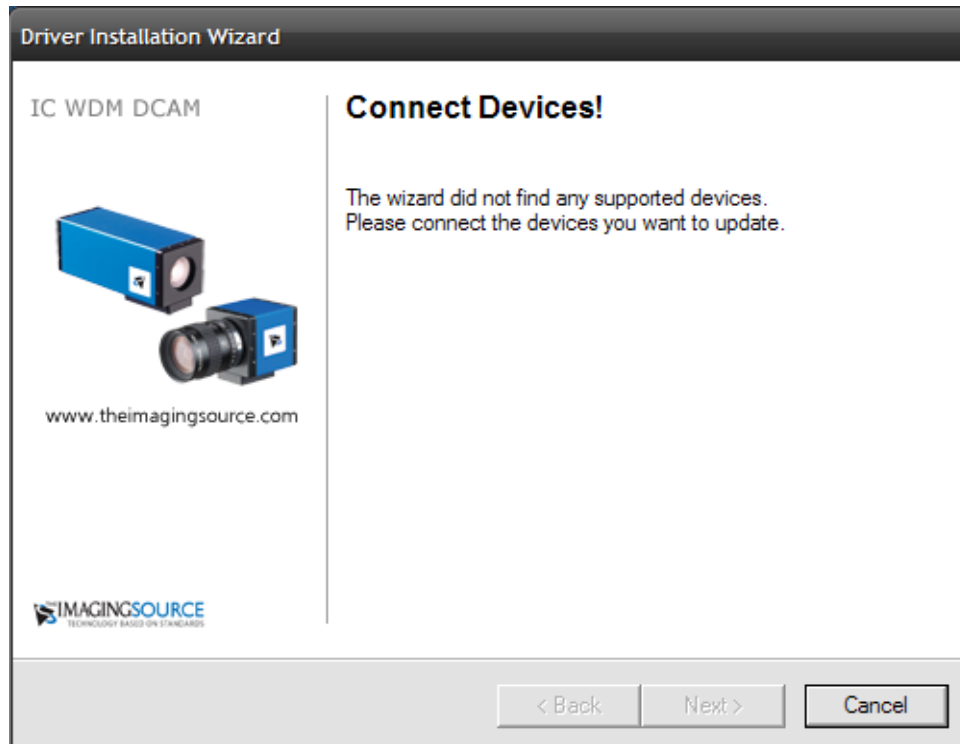

Fig. 5-17
7. A request on connecting the video camera to the computer will appear (Fig. 5-17). Connect the camera to the FireWire 1394 port with a cable supplied with the delivery set of the video camera.